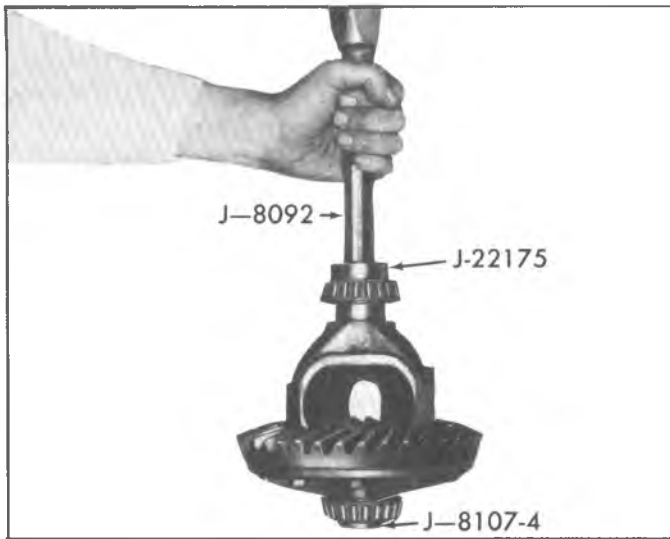

Fig. 4B—Differential Bearing Installation
3. Place new bearing on hub with thick side of inner race toward case and drive into place, using J-22175 and Driver Handle J-8092, as shown in figure 4B.
4. Before bearing installation on opposite hub, support differential case on Adapter Plug J-8107-4. This allows differential case to rest on adapter instead of bearing cage. See Figure 4B. Install remaining bearing as instructed in Step 3.